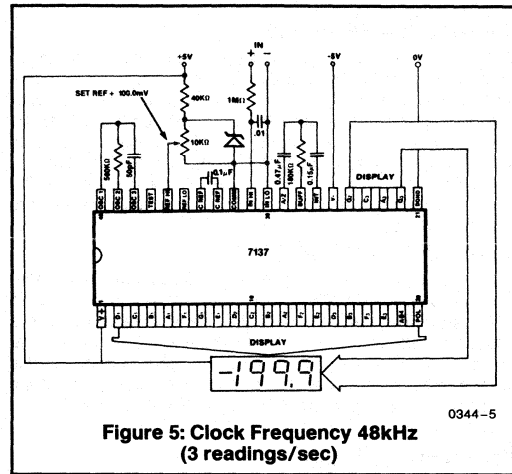

Figure 5: Clock Frequency 48kHz (3 readings/sec)
5. 48kHz oscillator, Figure 5, increases current by 35µA (typ).